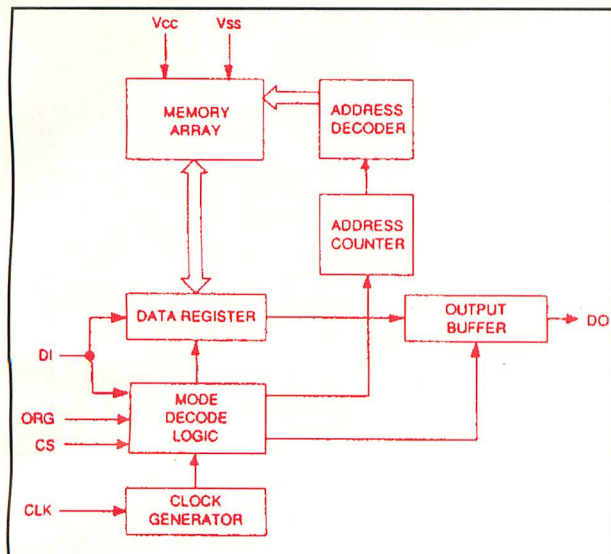

Fig. 4. Block diagram of the 93LC66 Serial EEPROM.
• **93LC66 CMOS Serial EEPROM** (Fig. 4). In the Data-Twig Data Logger, the Microchip Technology 93LC66 4K-bit low-voltage serial EEPROM is configured as a 512K-byte device, effected by grounding ORG (pin 6 of U3 and U4). Instructions, addresses and write data are clocked into DI (pin 3 of U3 and U4) on the rising edge of the clock at CLK (pin 2 of U3 and U4). Again, CLK is created in firmware inside the PIC16C71 and presented to U3 and U4 from pin 11 of U2. The serial clock synchronizes communication between the PIC and the 93LC66. Opcode, address and data bits are clocked in and out on the positive edge of CLK. DI and DO pass data to and from the PIC. DO is also used to provide an erase or write-complete indication to the PIC16C71.